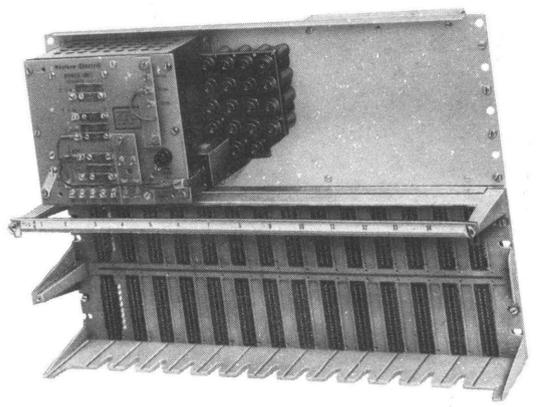

Fig. 49—604A-Type Panel (604A2 Shown)
the units for a maximum of fourteen 101-type or 102-type interconnecting units or eighteen 108A interconnecting units. It was used also for the 103A (MD) interconnecting unit, which is no longer required. All of the previous units may be accommodated in a given 604A panel. (See Fig. 49.) The 604A2 panel is equipped with a 19C2